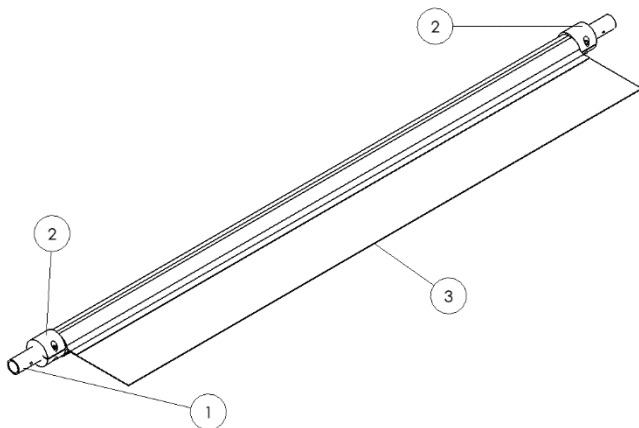

Figure 4.6
On one end of the cross-tube (1) slide on one of the tarp centering flanges (2). Now feed the end of the cross tube without the centering flange through the pocket end of the tarp (3). Place the remaining tarp centering flange on the cross tube. Adjust the tarp and centering flange so that the tarp is center on the cross-tube. Tighten the centering flanges to secure them in place. (Figure 4.6)